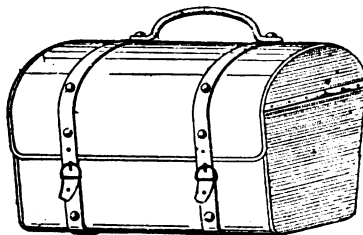
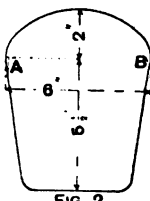

FIG. 1
FIG. 2
**Easily Made Handbags.**—A general view of an easily made handbag is given by Fig. 1. For the ends of the bag, cut two pieces (Fig. 2) of  $\frac{1}{2}$ -in. wood 6 in. by 7 in. to shape, and then with fine wire nails fasten round them a piece of stout floor oilcloth (one that has a painted back) with the back outside 10 in. wide by 20 in. long. At one end the corners should be rounded, and before the oilcloth is nailed on it should be bound all round the edge with  $\frac{1}{2}$ -in. or  $\frac{1}{4}$ -in. strong black or coloured tape, or a strip of table oilcloth or American cloth, to prevent the edges fraying; the binding can be stitched on with an ordinary sewing machine if a little care is exercised when the oilcloth is bound. Commence nailing round the edges of the wood ends, beginning at A with the square end and